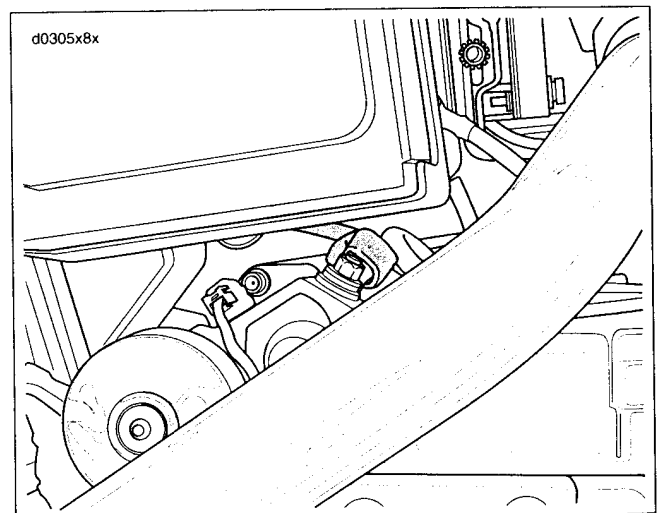

Figure 8-33. Positive Cable Routing
4. See Figure 8-33. Install positive cable.